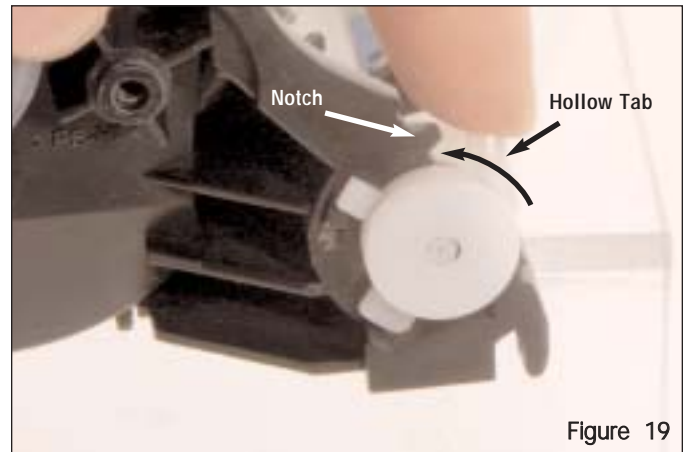

Figure 19
5. Turn Cartridge to the Non-Geared Side in order to install the capped white Center Bearing. Position the hollow Tab facing up, then rotate the Bearing counter clockwise until the hollow Tab snaps on to the small notch on the Cartridge. As shown in Figure 19. Ensure the Bearing is locked securely in place.